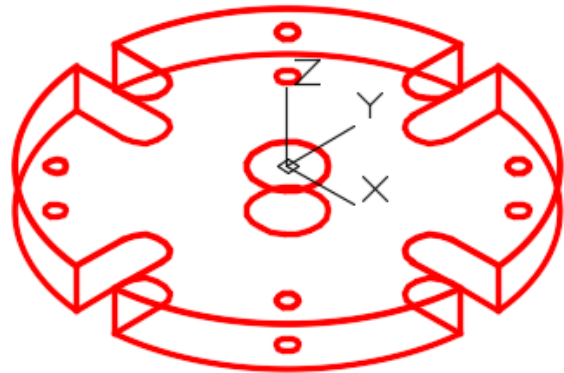

Figure Step 10
Step 10 Change the view to SE Isometric. (Figure Step 10)